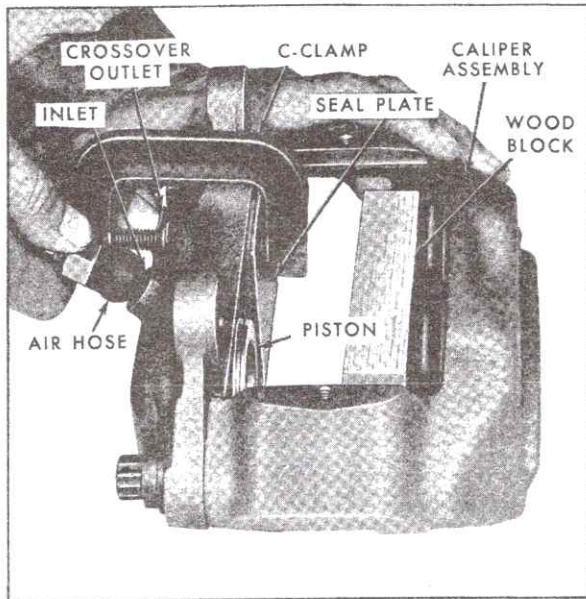

Fig. 5-34 Removing Pistons from Caliper
5. Position a 3 x 4-1/2 x 3/4 inch piece of soft wood inside of caliper bridge area, between pistons, Fig. 5-34.
7. Position seal plate or similar device over bore of piston previously removed, retaining with a C-clamp, and repeat step 6 to force remaining piston from inboard half of caliper assembly, Fig. 5-34.